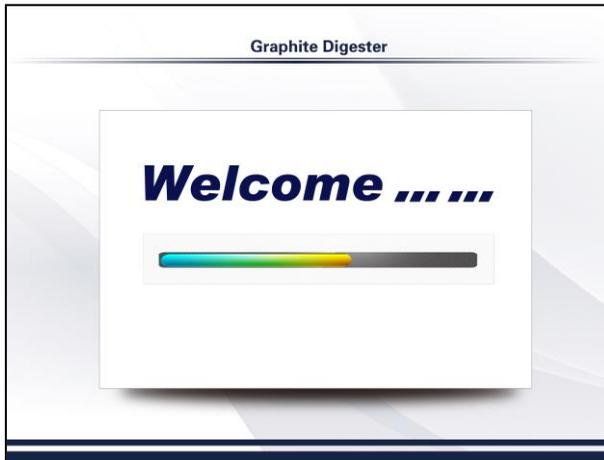

Fig.9
4.2.3.1. The waiting interface will be shown on the first page. See Fig.9.